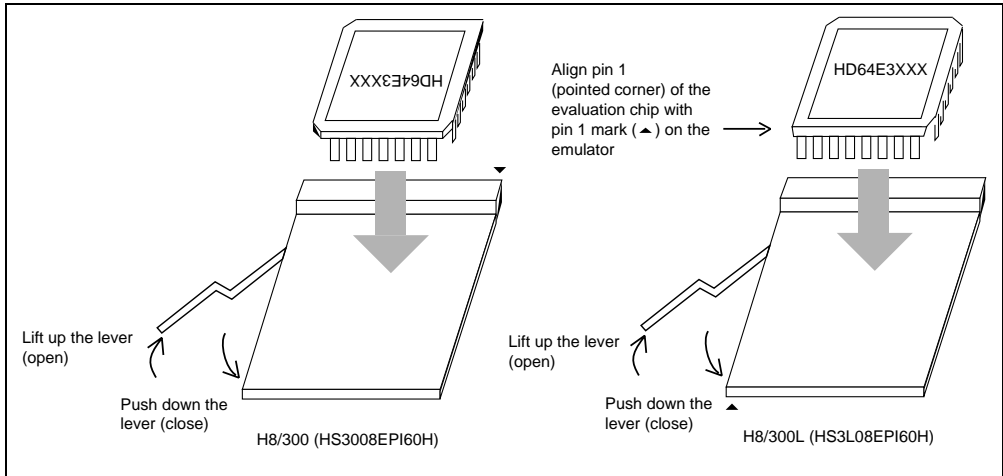

Figure 7.1 Evaluation Chip Installation
- (1) Turn off the emulator's power switch and remove the AC adapter from AC outlet.
- (2) Remove the four screws at the side of the emulator and lift up the cover.
- (3) Lift up the IC socket lever and insert the evaluation chip. Be sure to align pin 1 location of the evaluation chip, as shown in figure 7.1.